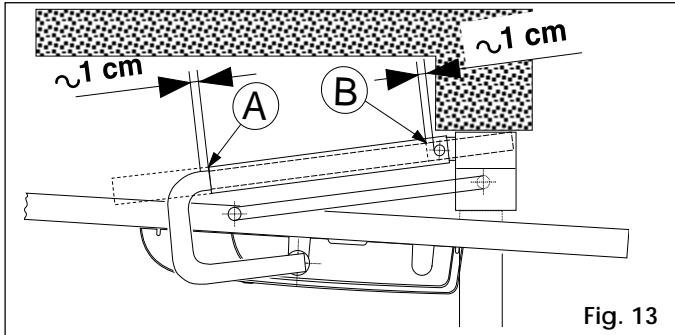

Fig. 13
- (B) Telescopic arm mounting bracket
- (C) Transmission shaft
- (D) Limit switch cam
- (E) Transmission shaft bracket
- (F) Securing grub screw
- (G) Straight arm outer profile
- (H) Straight arm
- (I) Curved arm outer profile
- (J) Curved arm
- (M) Release key
• **curved arms (Fig. 13)**
Place the telescopic arm in position as shown in figure 13.